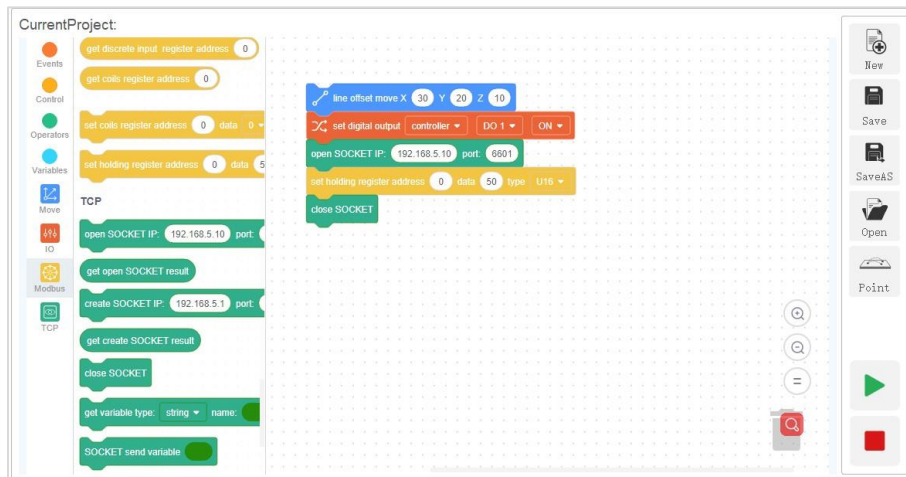

Figure 3.1 Writing a program
- Step 2** Drag the blocks to the code area to start programming, as shown in Figure 3.1.